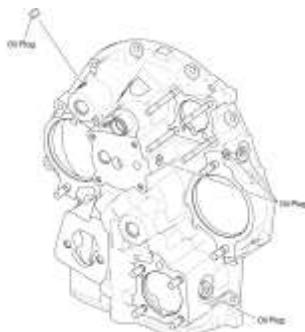

Figure 14
- (1) Remove the threaded oil (NPT) plugs from the accessory housing, oil sump, and crankcase to facilitate cleaning (Figures 14, 15, and 16).